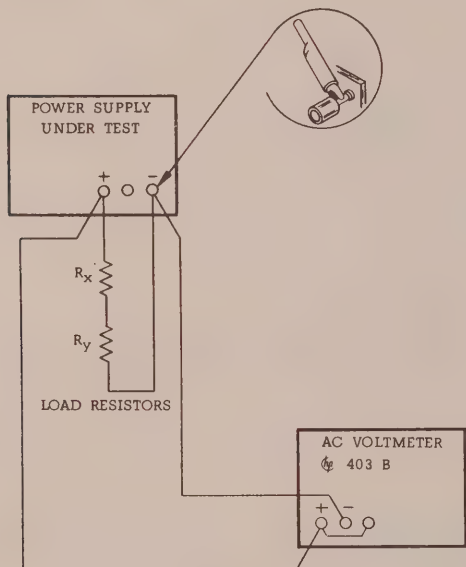

Figure 5-6. Ripple and Noise, Constant Voltage
a. Retain test setup used for previous line regulation test except connect AC voltmeter across output terminals as shown in Figure 5-6.